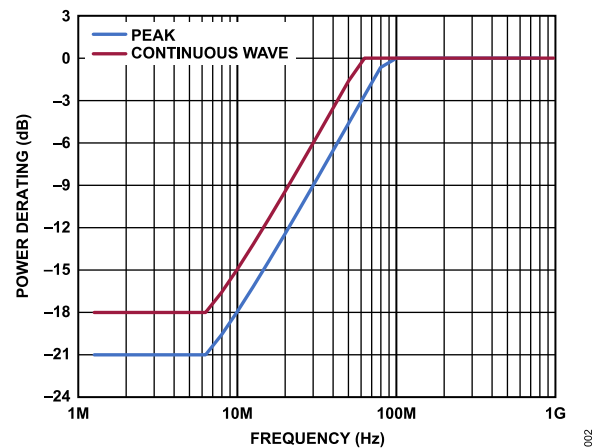
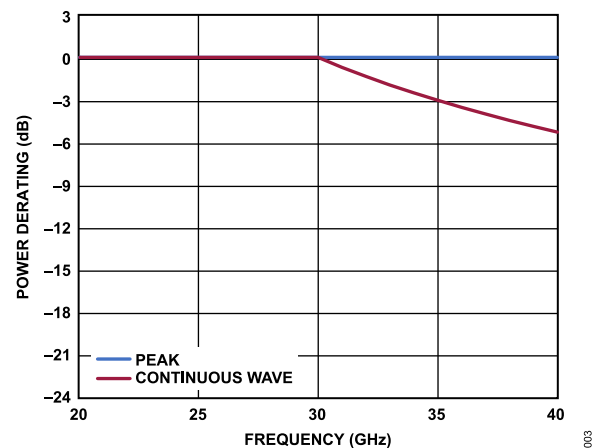

Figure 2. Power Derating vs. Frequency, Low Frequency Detail, T_{CASE} = 85°C
Figure 3. Power Derating vs. Frequency, High Frequency Detail, T_{CASE} = 85°C
³ For power derating over frequency, see Figure 2 and Figure 3. Applicable for all ATTIN and ATTOU power specifications.
- ¹ For power derating over frequency, see Figure 2 and Figure 3. Applicable for all ATTIN and ATTOUT power specifications.